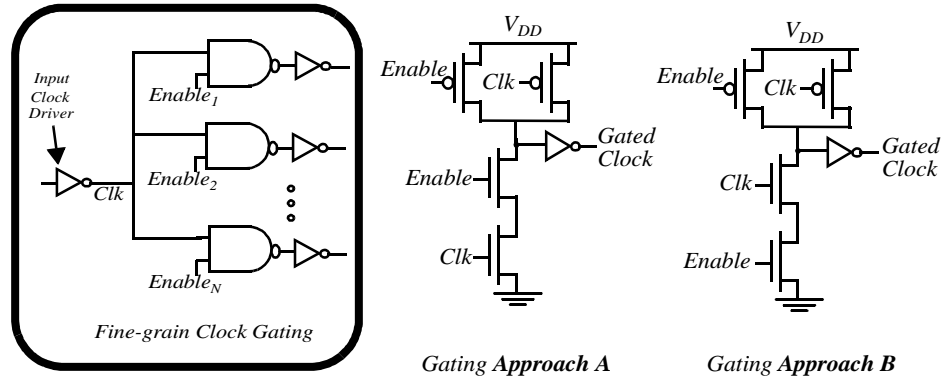

Figure 0.3 Jitter in clock gating
- b. Consider a Gated Clock implementation where the clock to various logical modules can be individually turned off as shown in Figure 0.3. (i.e.,  $Enable_1, \dots, Enable_N$  can take on dif-